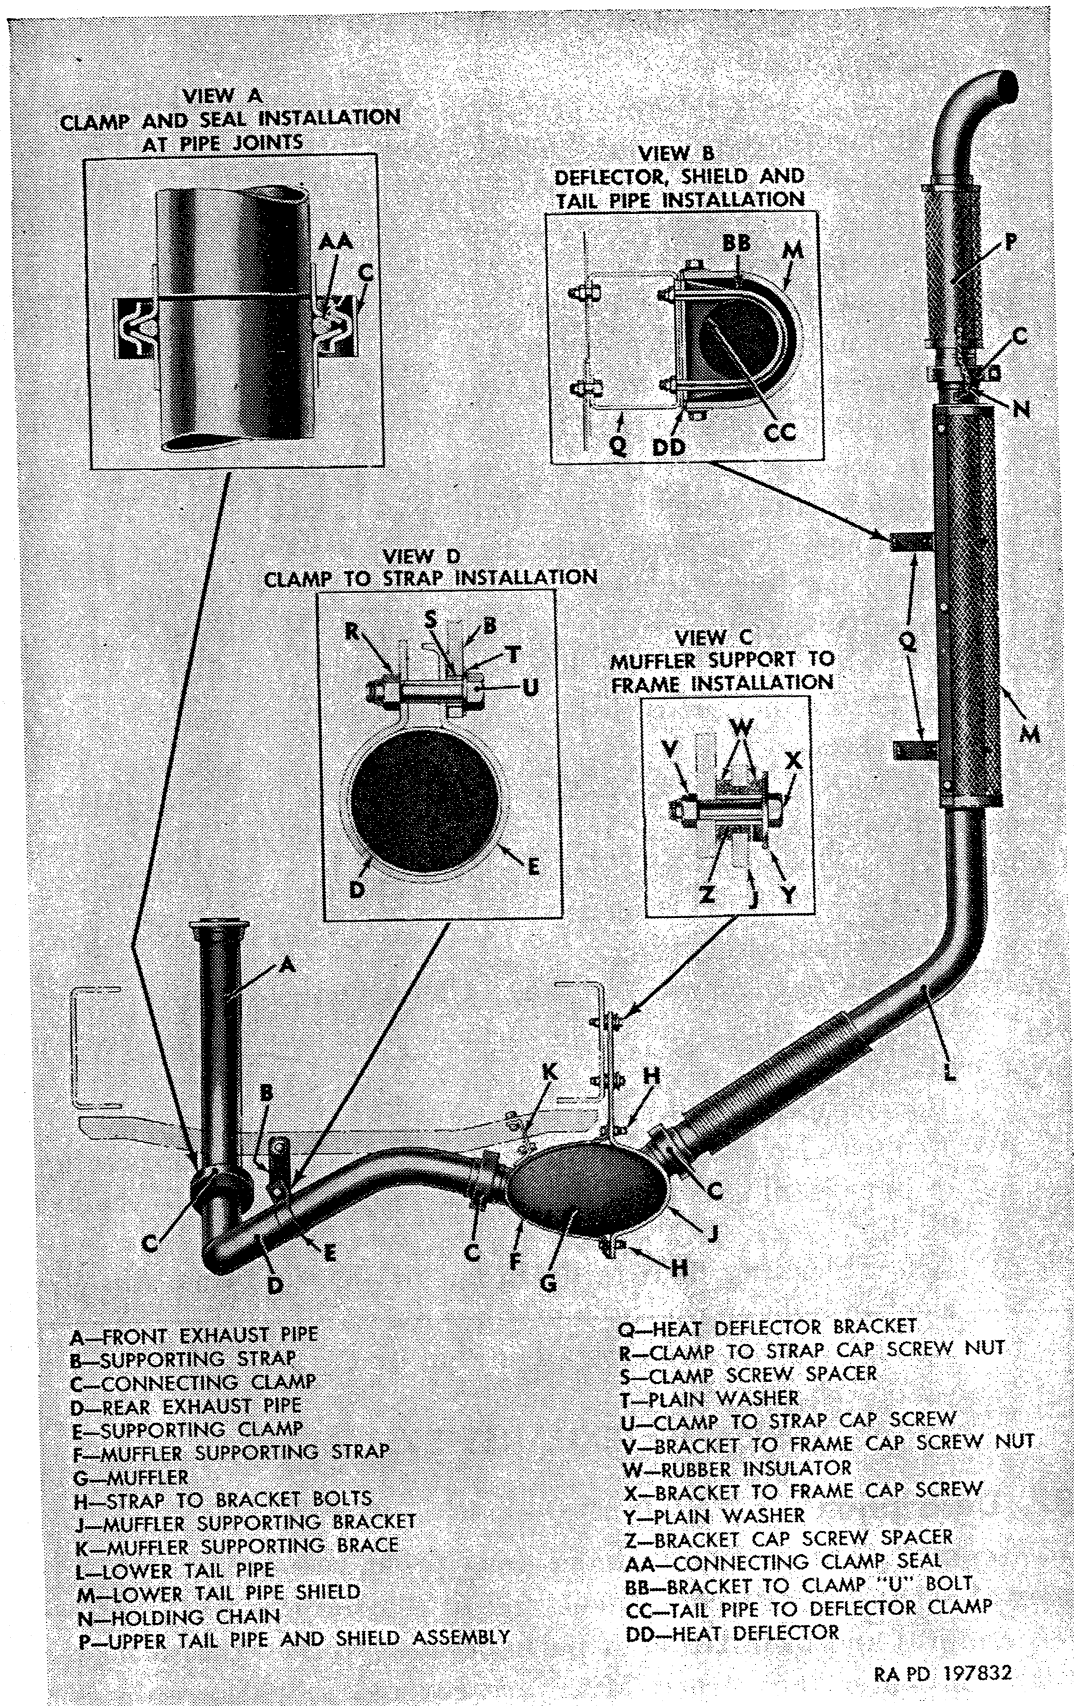
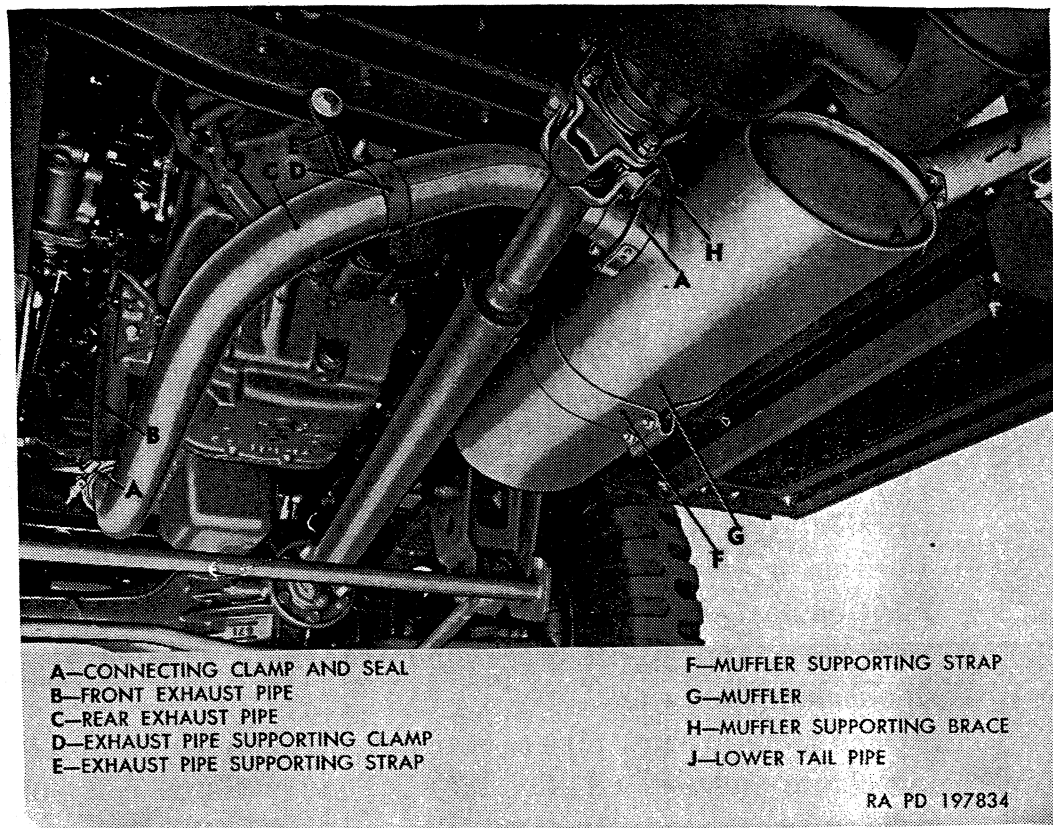

Figure 133. General arrangement of exhaust system—typical of all vehicles, except water tank truck M222.
Figure 135. Exhaust pipe and muffler installed.
*a. General.* This section includes description, removal, and installation of exhaust system components for all vehicles (fig. 133). However, removal and installation of parts peculiar to the exhaust heater system on water tank truck M222 are covered in paragraphs 338 through 349.
engine exhaust manifold as shown in figure 134 and secured to rear exhaust pipe with a connecting clamp and seal. A heat shield (H, fig. 134) is clamped to front exhaust pipe and braced to a stud mounted in engine block. Rear exhaust pipe is attached to muffler with a connecting clamp and seal (A, fig. 135) and supported on transmission rear support by a clamp and supporting strap (D and E, fig. 135). On vehicles equipped with a water tank body (M222), a control valve is incorporated in the rear exhaust pipes which allows the exhaust to be diverted to heating chamber in water tank body. For information on servicing exhaust control valve and other components of the water tank heating system, refer to paragraphs 347, 348, and 349.
*c. Muffler* (fig. 135). The muffler assembly is mounted under vehicle at right side and is secured to frame with muffler supporting bracket (J, fig. 133) and muffler supporting strap (F, fig. 133). The muffler supporting strap is also attached to transmission rear support by muffler supporting brace (K, fig. 133).
*d. Tailpipes* (fig. 136). The two-section tailpipe is connected to muffler at lower end with a connecting clamp and seal (view A, fig. 133). The tailpipe assembly extends up the right side of cab structure on outside. Upper portion of lower tailpipe is protected with a demountable guard to prevent injury to personnel, and is mounted to cab structure with U-bolts and clamps (view B, fig. 133). Upper tailpipe is secured to lower tailpipe with a connecting clamp and seal. Upper pipe is chained to lower pipe, and can be disconnected and lowered to obtain lower operable cab height. Late model vehicles have a guard welded to upper tailpipe, and upper end of pipe is curved to prevent rain and snow from settling directly into tailpipe, and to deflect exhaust gases away from cab. Early model straight upper tailpipes may be reshaped to form a curvature at outlet end of pipe as outlined in paragraph 140*c*.
- (1) Remove three jamnuts (B), cap screw nuts (C), and cap screws (F) from flange attaching front exhaust pipe (G) to exhaust manifold (A).
- (2) Push flange down on exhaust pipe. Remove flange seal (E) and gasket (D).
- (3) Remove nut (L) and lockwasher from heat shield brace stud; then pull brace (K) off stud. Remove flat washer from stud.
- (4) Remove connecting clamp and seal (A, fig. 135) attaching front exhaust pipe to rear exhaust pipe. Remove front exhaust pipe. Remove heat shield and clamp from front exhaust pipe.
- (1) Position heat shield (H) on front exhaust pipe (G) with heat shield clamp (J). Install a  $\frac{3}{8}$ -24 x  $1\frac{1}{4}$  cap screw in clamp, and install a  $\frac{3}{8}$ -24 safety nut on cap screw. Do not tighten nut at this time.
- (2) Position flange seal (E) and flange gasket (D) on flange of front exhaust pipe (G). Lift exhaust pipe into position against exhaust manifold; then connect exhaust pipe flange to exhaust manifold with three  $\frac{3}{8}$ -16 x 2 flange cap screws (F) and flange cap screw nuts (C). Tighten nuts evenly. Install and tighten  $\frac{3}{8}$ -16 jamnuts (B).
- (3) Position a  $\frac{3}{8}$ -inch flat washer on heat shield brace stud. Position heat shield brace (K) on stud; then install a  $\frac{3}{8}$ -inch lockwasher and  $\frac{5}{16}$ -24 brace stud nut (L). Tighten heat shield clamp screw nut.
- (4) Attach front exhaust pipe to rear exhaust pipe with connecting clamp and seal (A, fig. 135). Tighten clamp bolt nut sufficiently to prevent leakage.
- (1) Remove rear exhaust pipe clamp cap screw nut, cap screw, and washer attaching exhaust pipe supporting clamp (D, fig. 135) to supporting strap at transmission rear support.
- (2) Remove connecting clamps and seals (A, fig. 135) securing rear exhaust pipe to front exhaust pipe and to muffler. Remove rear exhaust pipe. Remove supporting clamp from rear exhaust pipe.
*Note.* Following procedures apply to all vehicles, except water tank truck M222. The key letters noted in parentheses are in figure 135, except where otherwise indicated.
- (1) Position connecting clamps and seals (A) and exhaust pipe supporting clamp (D) on rear exhaust pipe (C).
- (2) Position rear exhaust pipe (C) to muffler (G) and front exhaust pipe (B) and attach with connecting clamps and seals (A). Tighten clamp bolt nuts sufficiently to prevent leakage.
- (3) Aline bolt holes of rear exhaust pipe supporting clamp (D) with hole in exhaust pipe supporting strap (E). As shown in view D, figure 133, place a  $1\frac{3}{32}$ -inch plain washer and
*Note.* The key letters noted in parentheses are in figure 135, except where otherwise indicated.
- (1) Loosen cap screw nut on rear exhaust pipe supporting clamp (D).
- (2) Remove connecting clamps and seals (A) attaching rear exhaust pipe (C) and lower tailpipe (J) to muffler. Pull pipes clear of muffler.
- (3) Remove two nuts and cap screws from muffler supporting brace (H), and remove brace.
- (4) Remove two upper and lower nuts and cap screws attaching muffler supporting strap (F) to muffler supporting bracket. Remove muffler assembly.
- (5) Muffler supporting bracket (J, fig. 133) may be removed by removing four nuts and cap screws attaching bracket to frame.
- (1) If muffler supporting bracket has been removed, install in sequence shown in view C, figure 133. On each of four  $\frac{5}{16}$ -24 x  $1\frac{5}{8}$  bracket-to-frame cap screws (X, fig. 133), place one plain washer (Y, fig. 133), bracket cap screw spacer (Z, fig. 133), and one rubber insulator (W, fig. 133) over spacer with smaller outside diameter of insulator facing threaded end of screw. Insert cap screw with washer, spacer, and insulator through muffler support bracket. Install another rubber insulator (W, fig. 133) over spacer on cap screw with smaller outside diameter of insulator facing bracket. Position bracket, with cap screws installed, on frame side member. Install four  $\frac{5}{16}$ -24 bracket-to-frame cap screw nuts (V, fig. 133) and tighten to  $9\frac{1}{2}$  to 13 pound-feet torque.
- (2) Position muffler into place in supporting bracket. Install muffler supporting strap (F) around muffler and attach strap to supporting bracket with four  $\frac{3}{8}$ -24 x  $1\frac{1}{4}$  cap screws and  $\frac{3}{8}$ -24 safety nuts. Tighten nuts just enough to support muffler until after exhaust pipe and tailpipe are connected.
- (3) Attach muffler supporting brace (H) to muffler with a  $\frac{5}{16}$ -24 x  $\frac{5}{8}$  cap screw and  $\frac{5}{16}$ -24 safety nut, and attach supporting brace to transmission rear support with a  $\frac{5}{16}$ -24 x  $\frac{3}{4}$  cap screw and  $\frac{5}{16}$ -24 safety nut. Tighten each nut to  $9\frac{1}{2}$  to 13 pound-feet torque.
- (4) Attach rear exhaust pipe (C) and lower tailpipe (J) to muffler with seals and connecting clamps (A). Tighten clamp bolt nuts sufficiently to prevent leakage.
- (5) Tighten rear exhaust pipe supporting clamp cap screw nut to 20 to 27 pound-feet torque. Tighten muffler supporting strap cap screw nuts to 20 to 27 pound-feet torque.
- (1) Position two heat deflector bracket clamps on lower tailpipe (fig. 136); then install two U-bolts connecting tailpipe to heat deflector (B, fig. 133). Install four  $\frac{5}{16}$ -24 safety nuts on U-bolts and tighten to  $9\frac{1}{2}$  to 13 pound-feet torque.